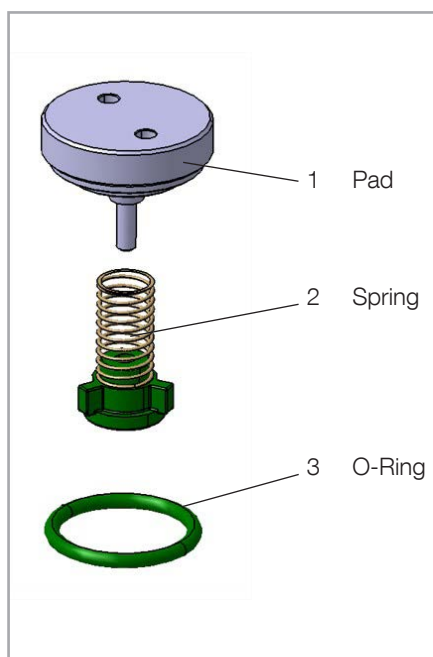

Figure 9 – Exhaust valve assembly
2. Dispose of all used items that have been removed following this operation: spring, pad and O-ring (figure 9, items 1, 2 and 3) and replace with new items.
Note: Do not damage or trap the O-ring (figure 9, item 3). Do not use any oil or lubricant during the assembly